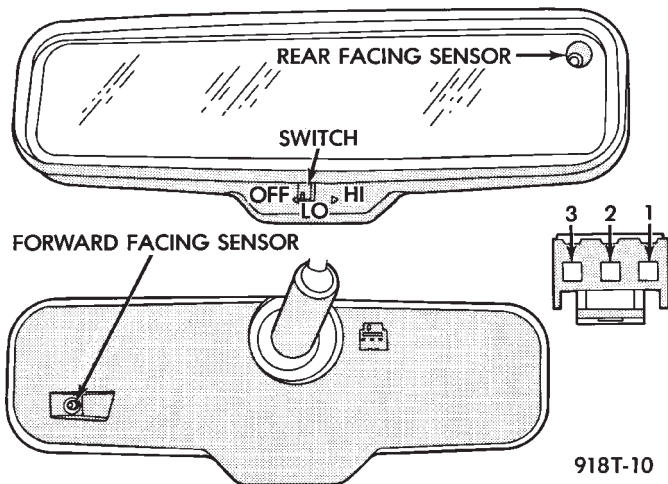

Fig. 21 Automatic Day / Night Mirror
- Turn ignition switch to the ON position with the vehicle in park (Fig. 21).
Test three way connector harness. Refer to Fig. 21.